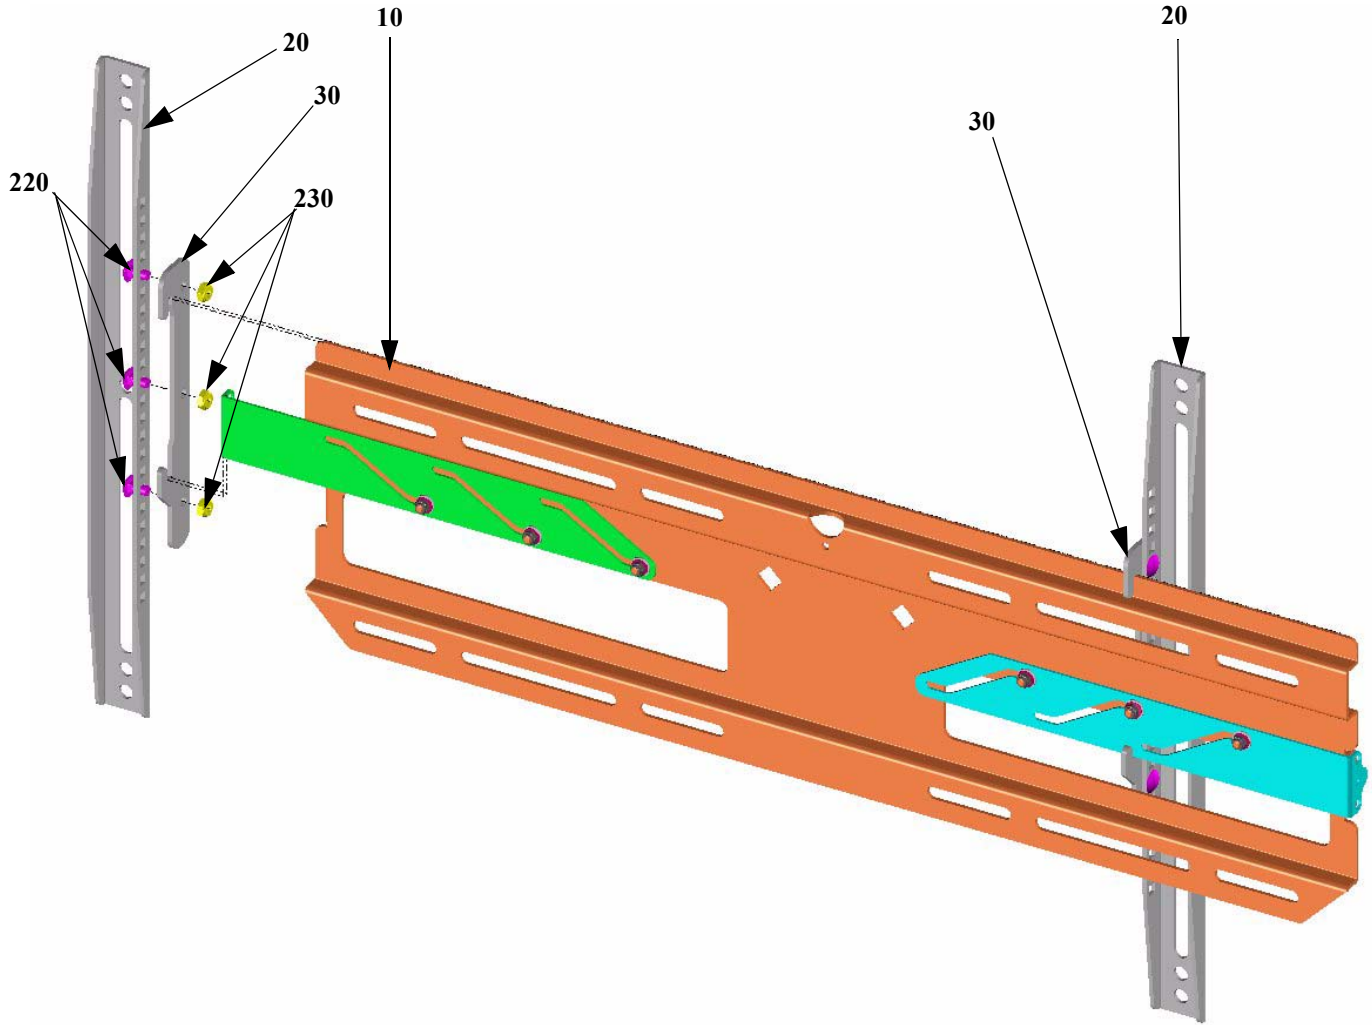

Figure 1. Parts
1. Carefully inspect the mount for shipping damage (see Figure 1). If any damage is apparent, call your carrier claims agent and do not continue with the installation until the carrier has reviewed the damage.